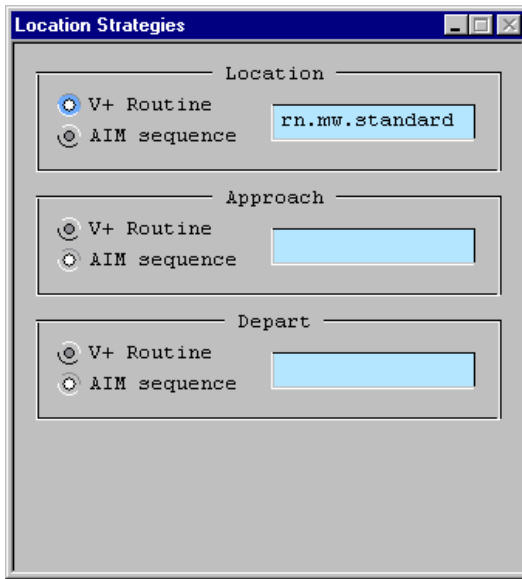

Figure 5-3
- ⑤ Displays the Location Strategies menu page (see Figure 5-3). You can specify a V+ routine or an AIM sequence to run at the beginning of the approach move, at the beginning of the move to the actual location, and at the beginning of the depart move. You also can specify a force process at the location (when force sensing is enabled). See Chapter 11 for details on the Force Sensing Module.